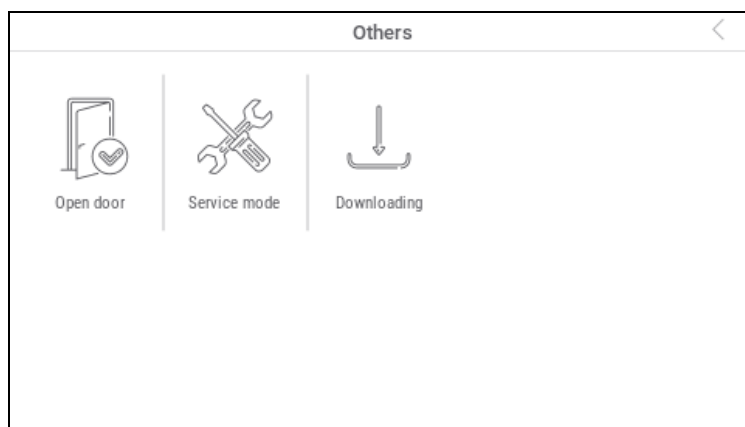

Fig. 5. Functions available on the "Others" screen (example).
4. Tap the "Others" function. A list of functions will be displayed (Fig. 5).